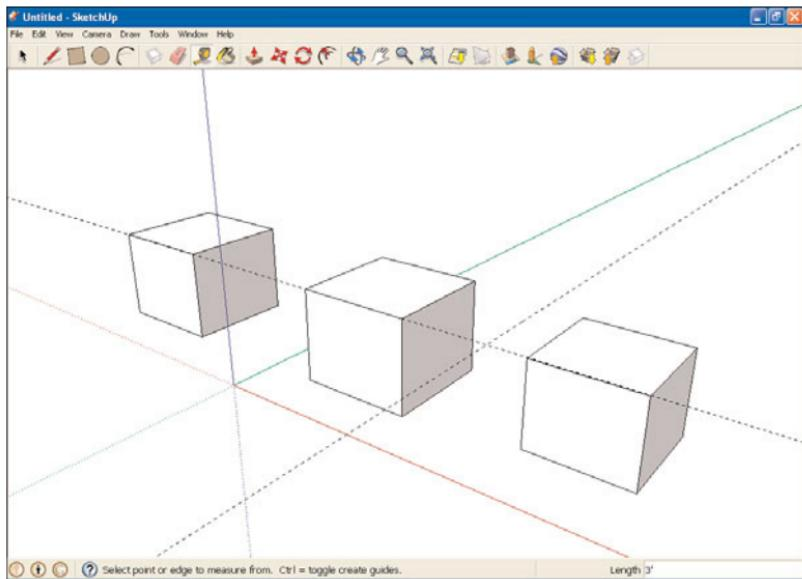

FIGURE 9.19 A new guide.
7. Press **Enter**. The guide snaps to three feet from the middle cube, as you see in Figure 9.19.